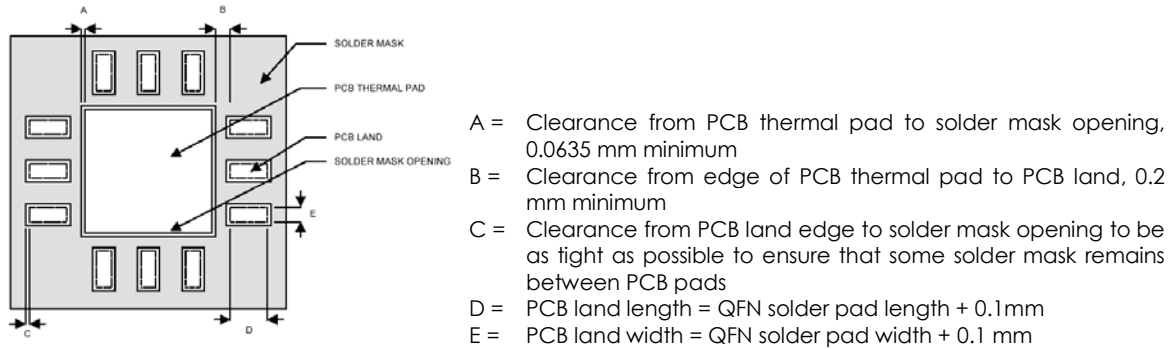

Figure 9: PCB land and solder mask recommendations
1. PCB land and solder masking recommendations are shown in Figure 9.